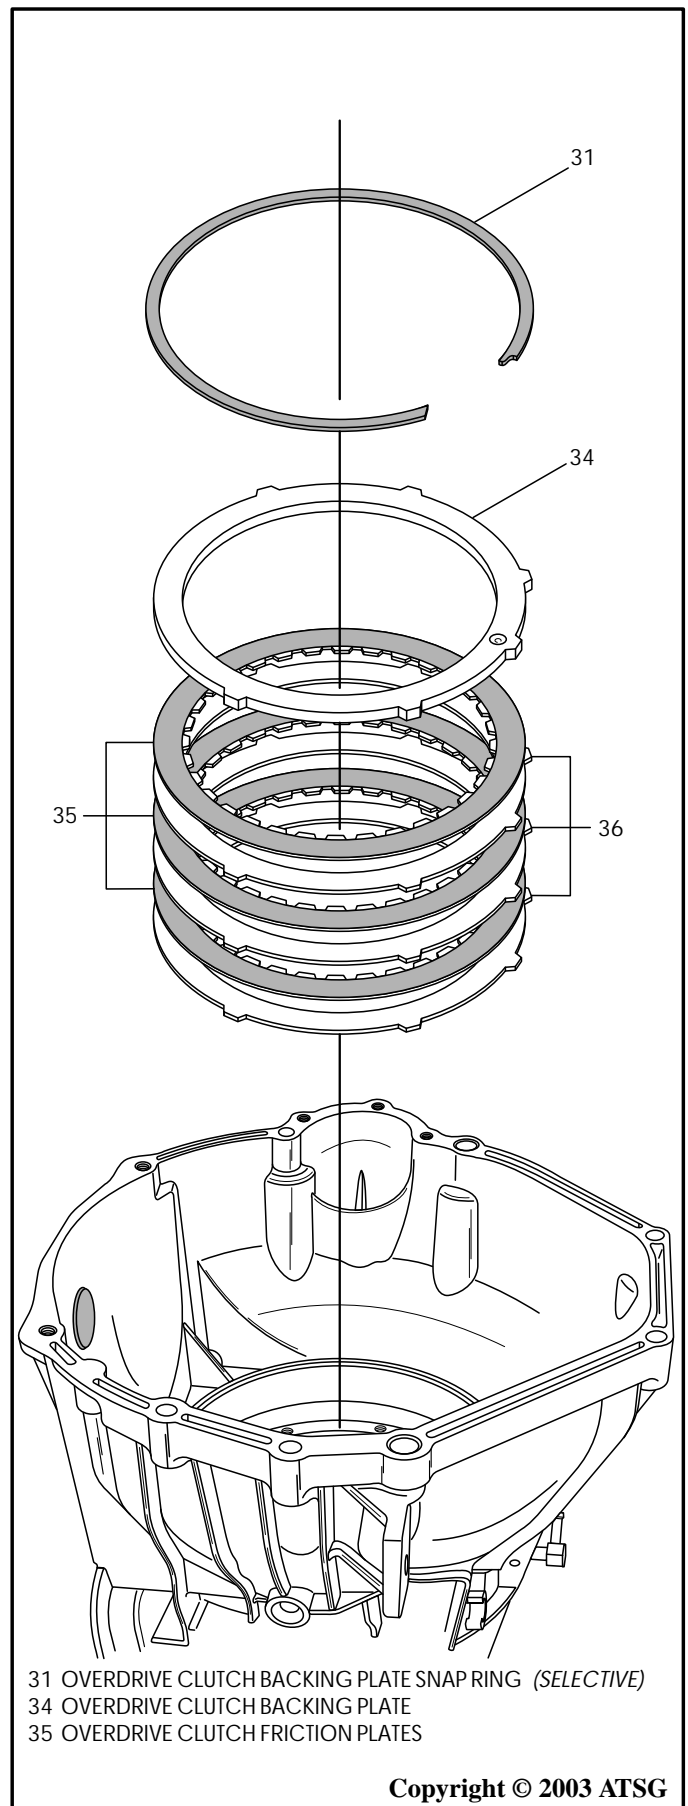

Figure 59
8. Remove the overdrive clutch backing plate snap ring, as shown in Figure 59, using a large screwdriver.
9. Remove the overdrive clutch backing plate and overdrive clutch pack, as shown in Figure 59.